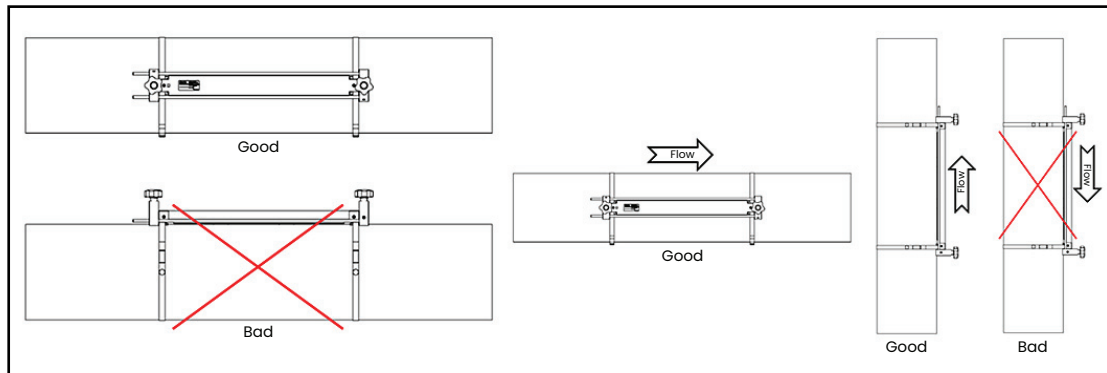

Figure 8: Good and bad transducer locations
- Locate the transducers on a common axial plane along the pipe (see figure 8 below). The transducers should be mounted on the side of the pipe, rather than the top or bottom, because the top of the pipe tends to accumulate gases and the bottom tends to accumulate sediment. Either condition may cause excessive attenuation of the ultrasonic signal. There is no similar restriction with vertical pipes, as long as the flow direction is upward to prevent free falling of the fluid in a partially filled pipe.